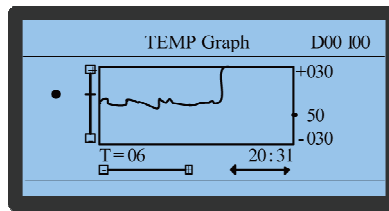

Figure 5-14 Air humidity graph interface
2. Select **Graph Menu** -> **HUM** to enter the **HUM** submenu, as shown in Figure 5-14.